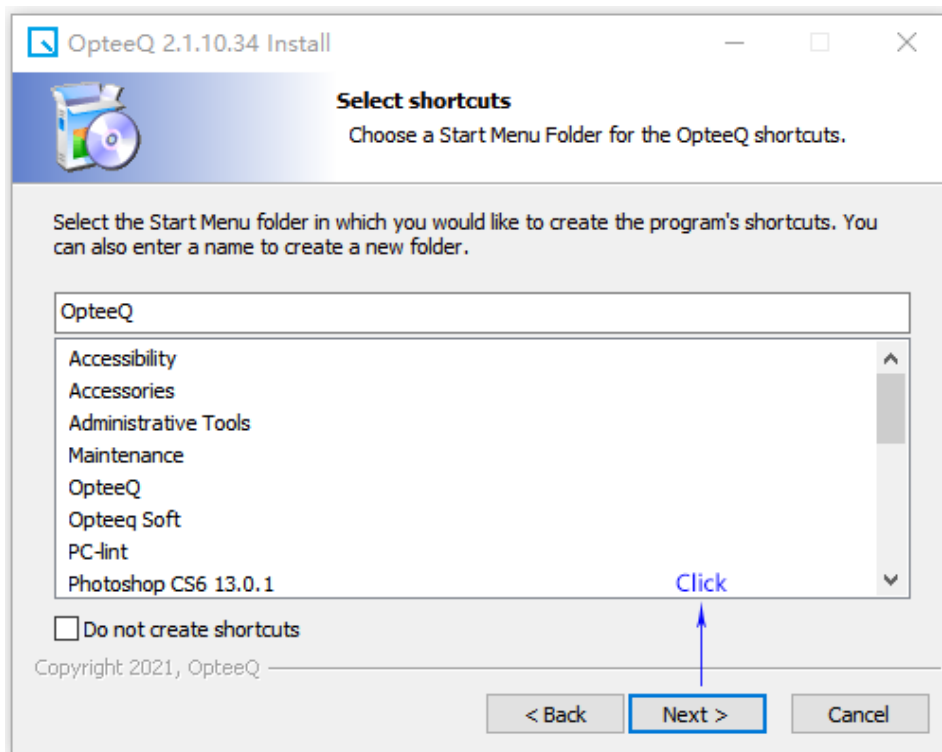

Figure 1.6: Step 6
Step 6: Click "Next" in the pop-up interface, as shown in Figure 1.6.